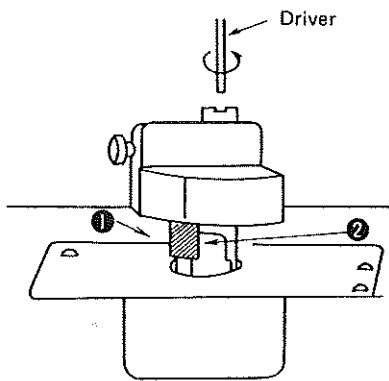

Fig. 5-7
10) Turn the potentiometer shaft counterclockwise until it stops, contacting the potentiometer link positioning pin (Fig. 5-7 ①) to that in the sensor potentiometer mounting position (Fig. 5-7 ②). Then, tighten the setscrew at that position (tightening torque 8 ~ 10 kgcm).